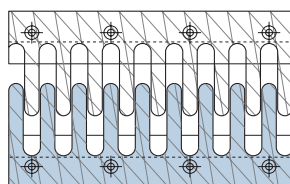

Fig.1
- NFT joints are manufactured to order and can be adapted to the directional movement of the main structure, straight (fig.1) or skew (fig.2)